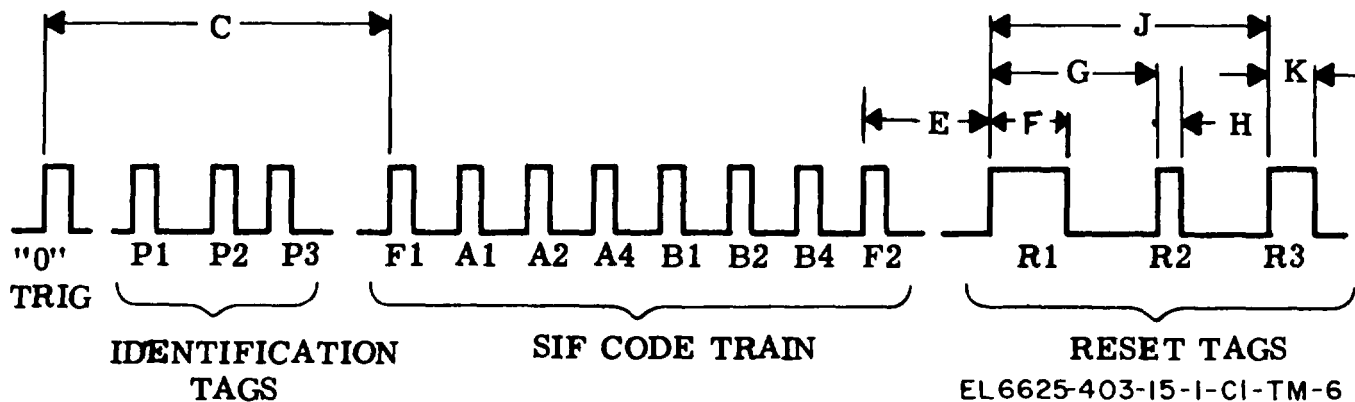

Figure 6-6 SIF coder test.
o. Adjust oscilloscope controls for proper display of the composite video signal at the CODER OUT jack. The pulse train shown in figure 6-6 except "O" TRIG pulse shall appear on scope.